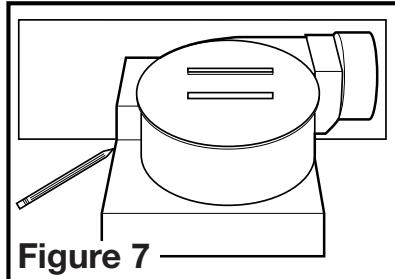

Figure 7
1. Position housing against the joist or stud and trace an outline of the housing onto the ceiling/wall material. Set housing aside and cut opening, being careful not to cut or damage any electrical or other hidden utilities (**Figure 7**).